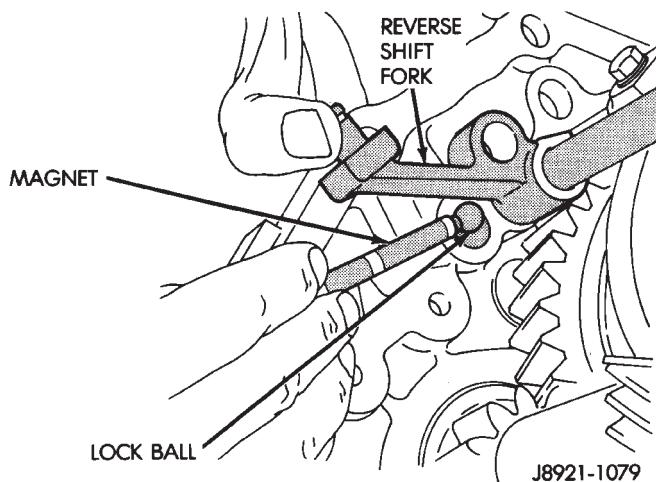

Fig. 89 Installing Reverse Shift Rail Lock Ball
(4) Position 1-2 and 3-4 shift forks in synchro sleeves (Fig. 88). (5) Coat reverse rail lock ball with petroleum jelly. Then tilt reverse shift fork upward and insert ball in intermediate plate (Fig. 89).